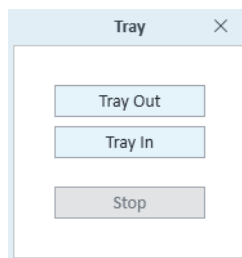

Figure 8. Tray widget dialog box
- 1 Click the Tray widget to display the Tray widget dialog box (See **Figure 8**).